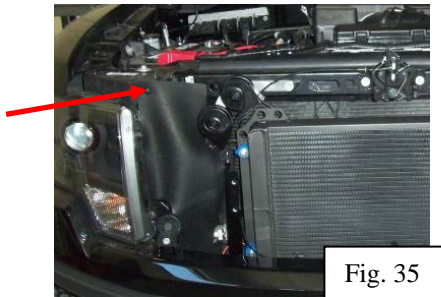

Fig. 35
28. Reinstall the rubber air deflector on the passenger side using the Phillips head plastic snap that was removed (Fig. 35).